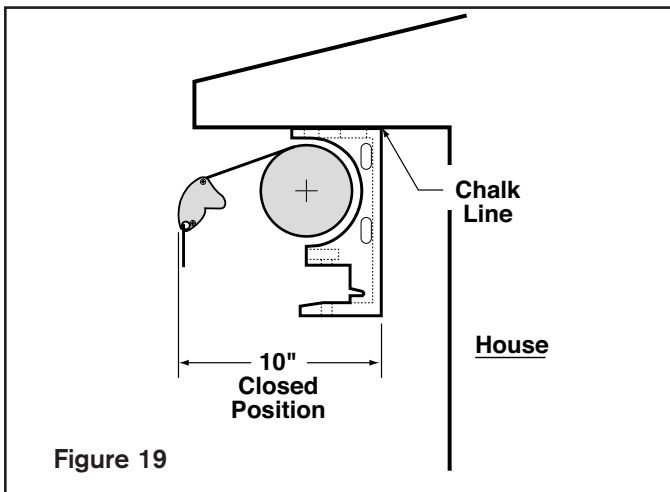

Figure 19
2. Snap a horizontal straight line on the soffit, using the chalk line, the length of the awning. When you position your chalk line on the soffit, take into account that when retracted, the awning will project 10" from the chalk line -- see figure 19.
5. Position the bracket against the soffit, centered over the vertical line, with the back of the bracket even with the horizontal chalk line, (see Figure 19), and mark the two holes -- see figure 20.